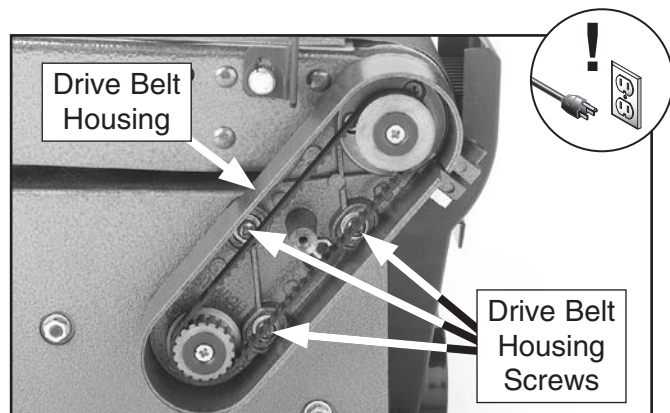

Figure 38. Location of drive belt housing screws.
2. Remove drive belt cover plate (see **Figure 38**).
3. Loosen (3) belt housing screws shown in **Figure 38** to relieve tension on drive belt.